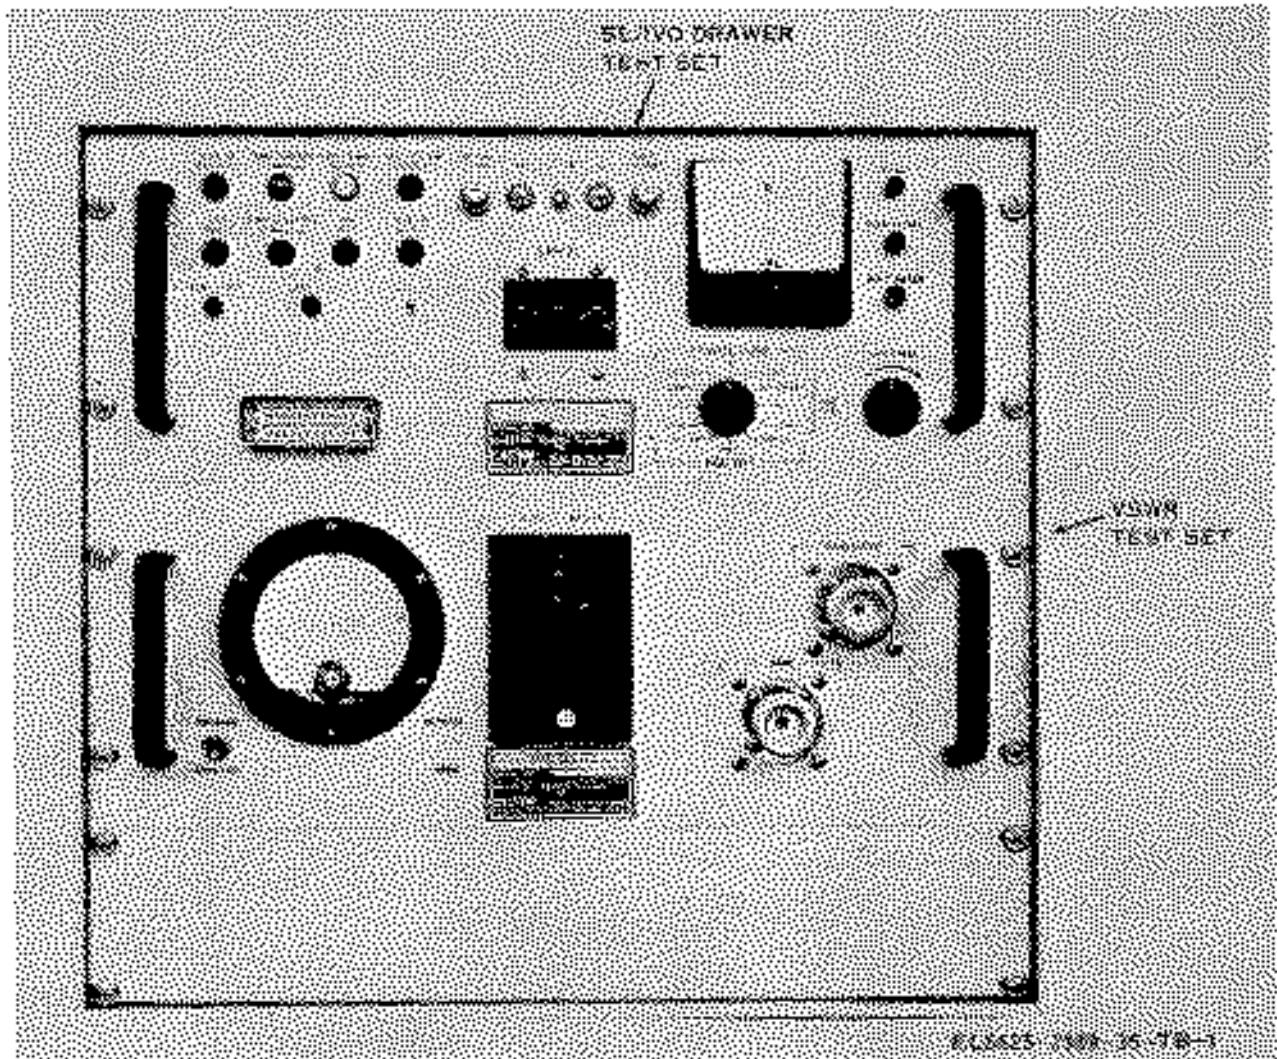

Figure 1. 10-kW Power Amplifier Test Set 006 - front panel view
**1. Purpose and Scope.** a. This manual contains the information necessary to calibrate the dc voltmeter/ammeter contained in the Servo Drawer Test Panel (Raytheon part number 324725-1) in 10-kW Power Amplifier Test Set 006 (Raytheon part number 577086-1). 10-kW Power Amplifier Test Set 006 (fig. 1) is a portable test set containing two separate test panels, which are used to provide two discrete test capabilities. The upper panel (Servo Drawer Test Set) is used to bench test the servo drawer assembly (part of Amplifier, Radio Frequency AM-4543/TSC38B (10-kW P.A.)) in the AN/TSC-38B van. The lower panel (VSWR Test Set) is used to monitor the output of the 10-kW P.A. in the ANITSC-38B van to simulate various